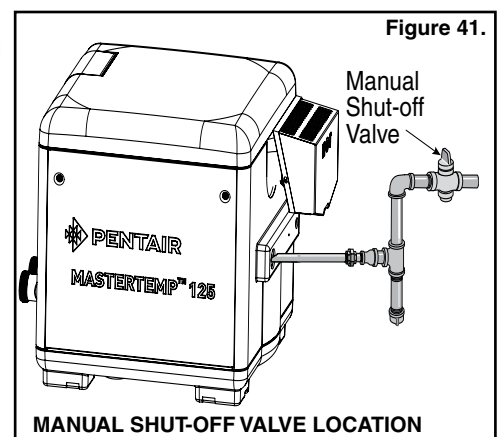

Figure 41.
4. **Toggle-Style Valve:** Pull toggle toward you to turn gas off, see Figure 41.